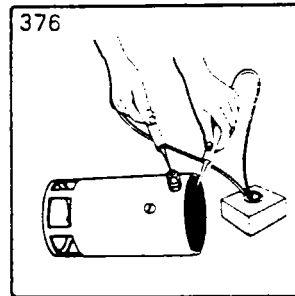

Figure 10-30. Testing Motor Fields for Grounds
a. Check the field coils for grounds (Refer to Figure 10-30) by placing one test probe on the frame and the other on the starter terminal. Be sure the brushes are not accidentally touching the frame. If the lamp lights, the fields are grounded. Repair or replace.